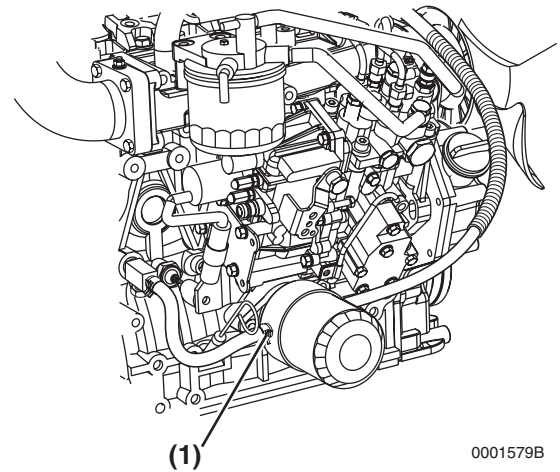

Figure 20
- On models equipped with an oil cooler, remove the coolant hose (**Figure 20, (1)**) at the oil cooler.